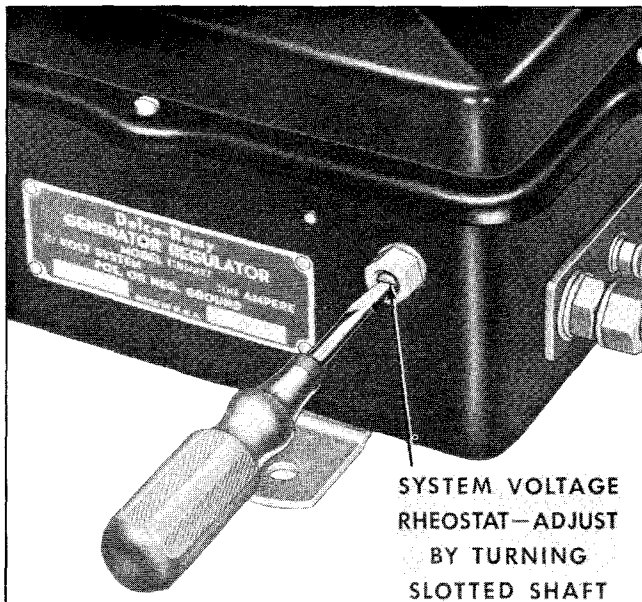

Figure 23—System Voltage Rheostat Adjustment
2. Set system voltage rheostat (fig. 23) on side of generator regulator box to halfway position. This can be done by turning slotted screw to right and left as far as possible, marking these limits with pencil, and then returning screw to mid-point between these marks.
12. Turn slotted screw of system voltage rheostat (fig. 23) to extreme left and then to extreme right. Note if voltage varies smoothly in both directions. (If voltage varies unevenly or erratically, rheostat is faulty and should be replaced.) Turn screw back until voltage is again at specified value. System voltage can now be adjusted within a range of approximately 3 volts if necessary, without changing any mechanical adjustments or removing cover of generator regulator.